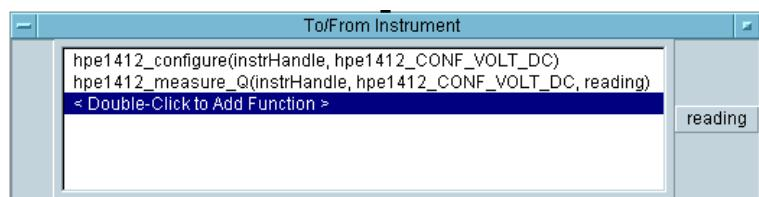

Figure 3-36. HPE1412 Driver Ready for a DC Reading
10. Click OK. A second function call is listed in the To/From Instrument object as shown in Figure 3-36.